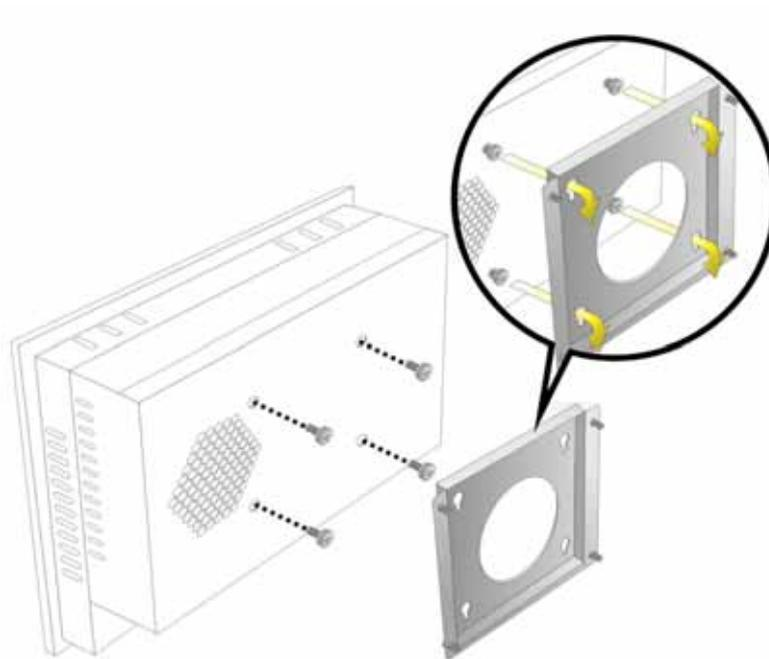

Figure 3-12: Mount the Chassis
- Step 6:** Insert the four monitor mounting screws provided in the wall mounting kit into the four screw holes on the rear panel of the monitor and tighten until the screw shank is secured against the rear panel (**Figure 3-12**).
- Step 2:** Carefully insert the screws through the holes and gently pull the monitor downwards until the monitor rests securely in the slotted holes (**Figure 3-12**). Ensure that all four of the mounting screws fit snugly into their respective